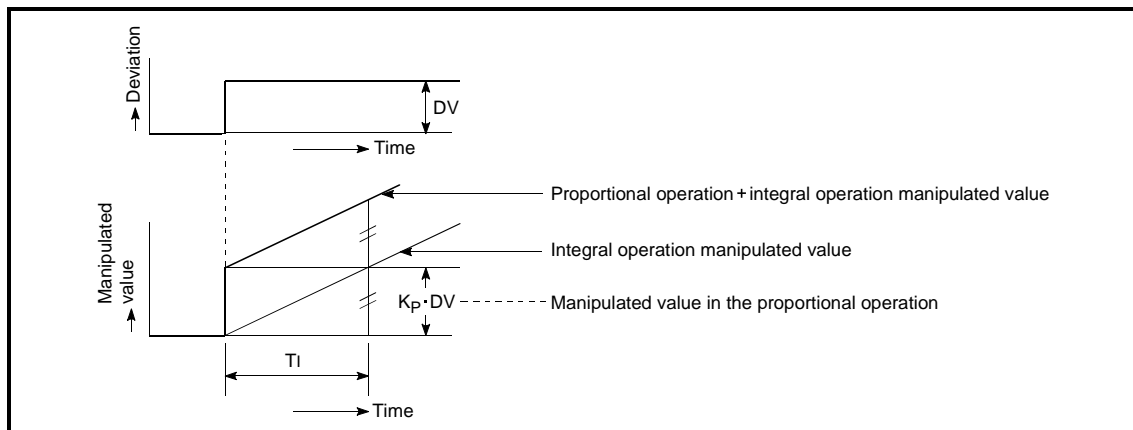

Fig. 1.4 Integral operation when the deviation is a constant
- (3) The integral operation when the deviation is a constant value stepped response is shown in Fig. 1.4.